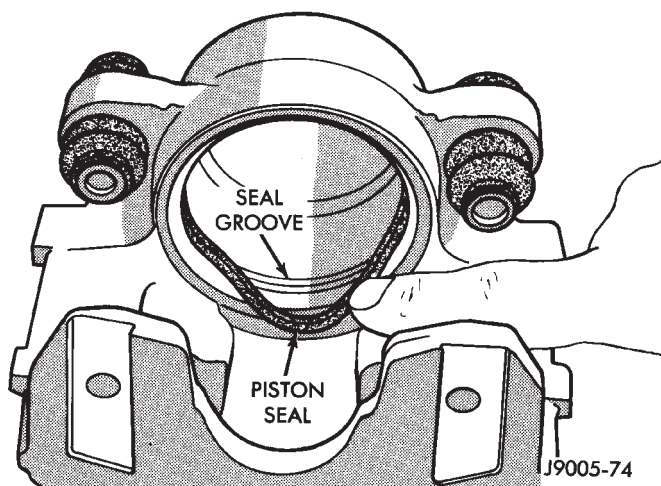

Fig. 70 Piston Seal Installation
(4) Install new piston seal into seal groove with finger (Fig. 70).